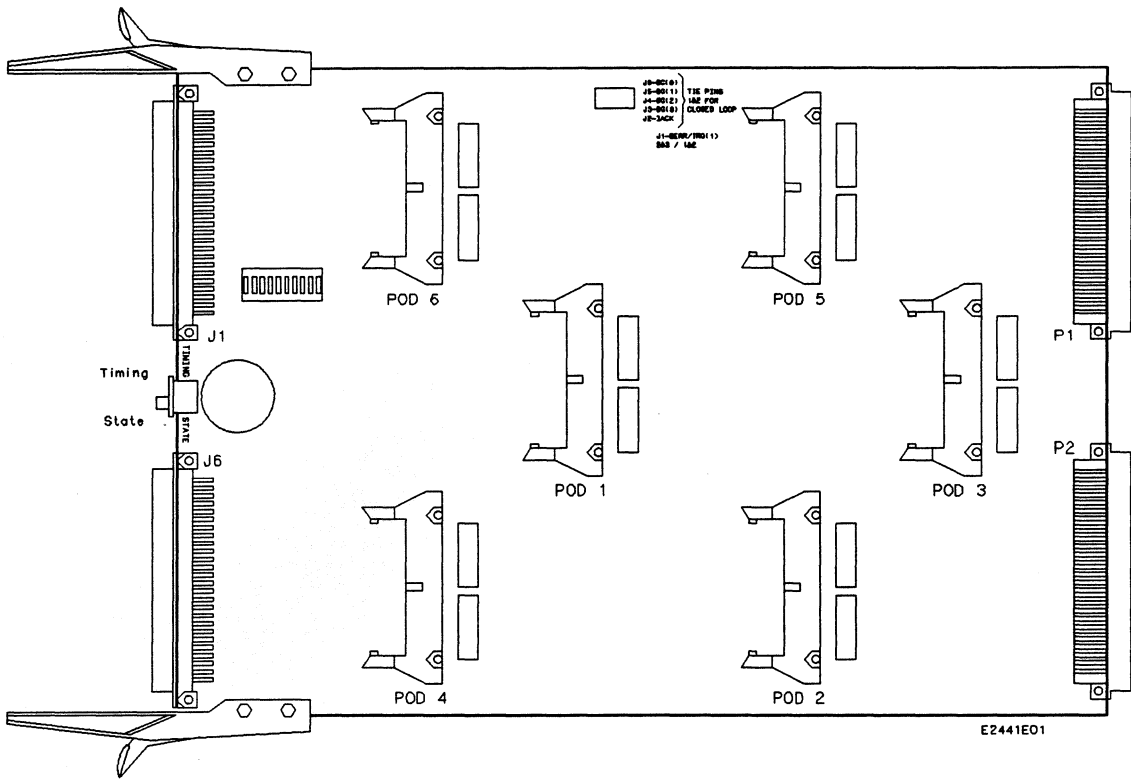

Figure 2-1. HP E2441B Pod Locations
1. Set the State/Timing switch to the down (State) position for state analysis (see figure 2-1).